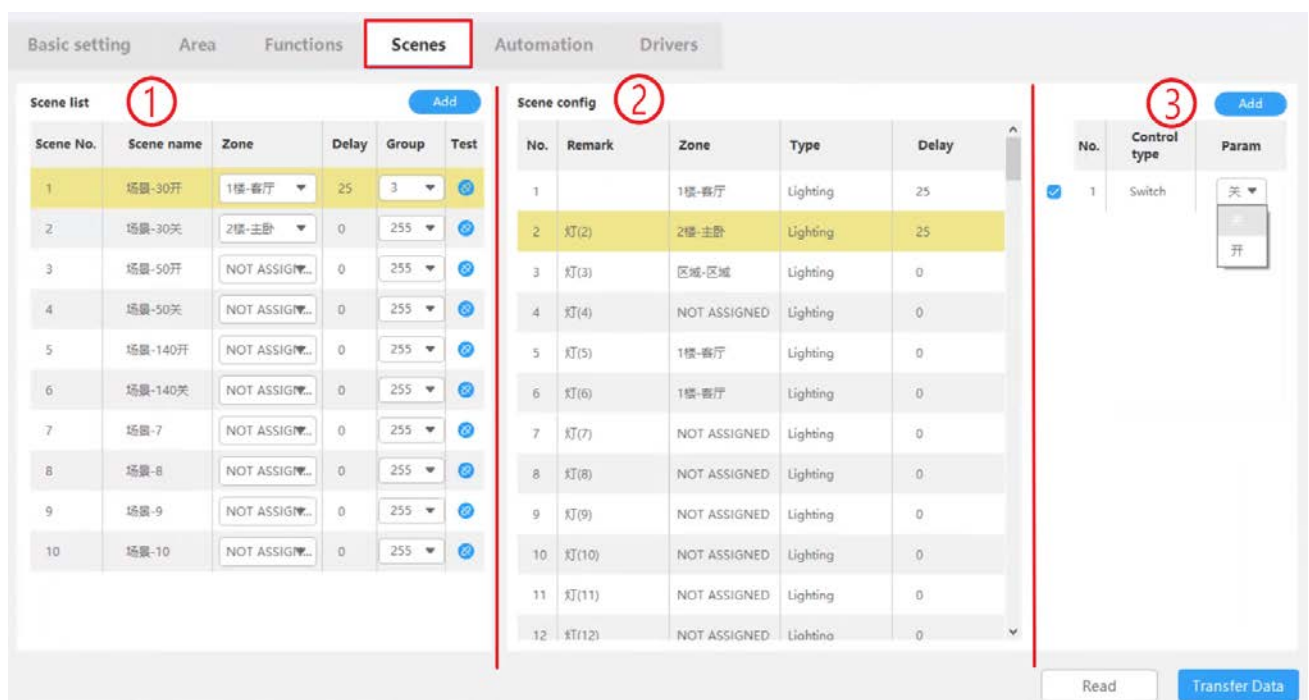

Figure 6-1 Scene Setting
As shown in Figure 6-1, click “Scenes” in configuration page to check and proceed settings. The detailed steps can be referred as the followings:
① Scene List:
- As shown in Figure 6-1, here it shows the name for the scene added, scene zone, delay time, group No.; you can also proceed scene test.
② Scene Configuration: As shown in Figure 6-1, you can set the scene area, type and delay time.
③ Control Type: As shown in Figure 6-1, you can set the control type as “On” or “Off”.